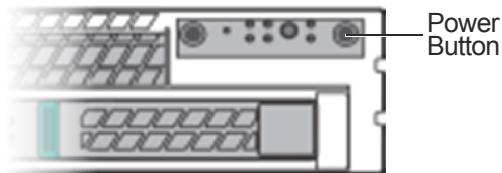

Figure 240 Power Button on the Front Panel of the Physical XMS
1. Verify that the Power button (on the top-right side of the physical XMS, as shown in Figure 240) is not lit.